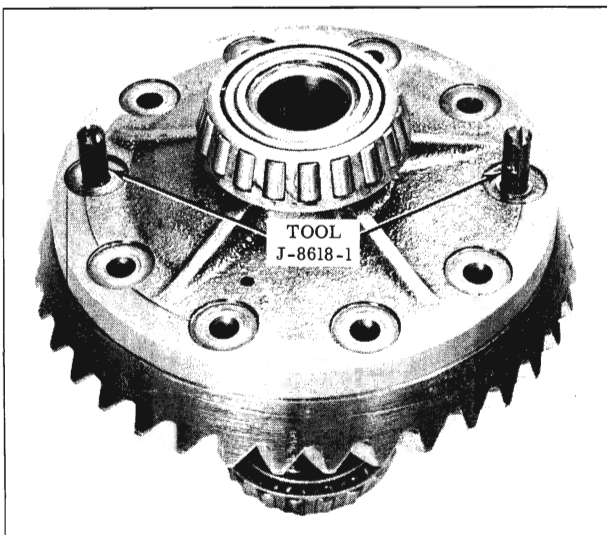

Fig. 6-122 Installing Ring Gear
1. After making sure that mating surfaces of case and ring gear are clean and free of burrs, thread two studs J-8618-1 through opposite sides of the ring gear and into the case. (Fig. 6-122) THESE STUDS MUST BE USED OR BOLTS MAY STRIP DUE TO IMPROPER ALIGNMENT.